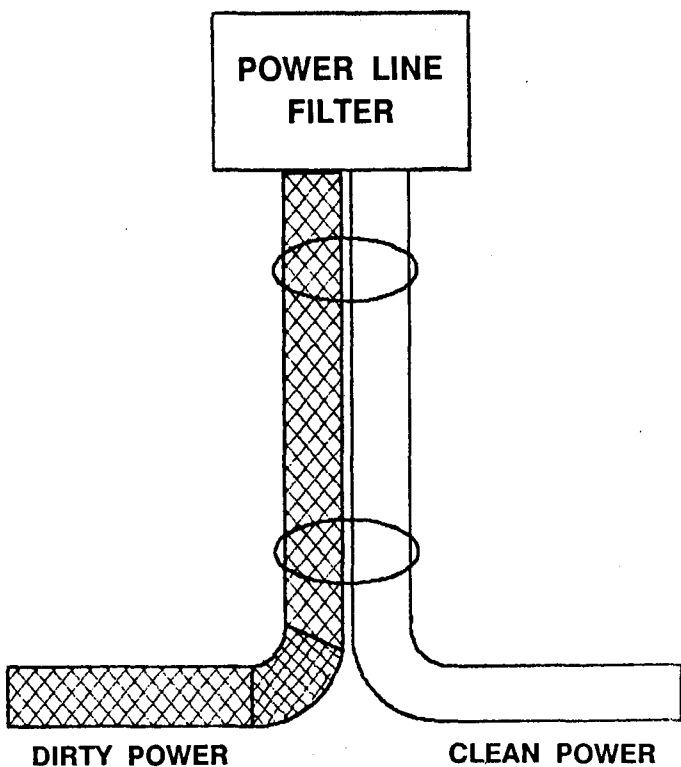

FIGURE 2 Incorrect cabling practice.
- Incoming power and data cables should be considered 'dirty'. These cables should not be bound together with cables that have been through a 'cleaning process' as interference can occur between them (see Figure 2) (Geldenhuis, 1990).